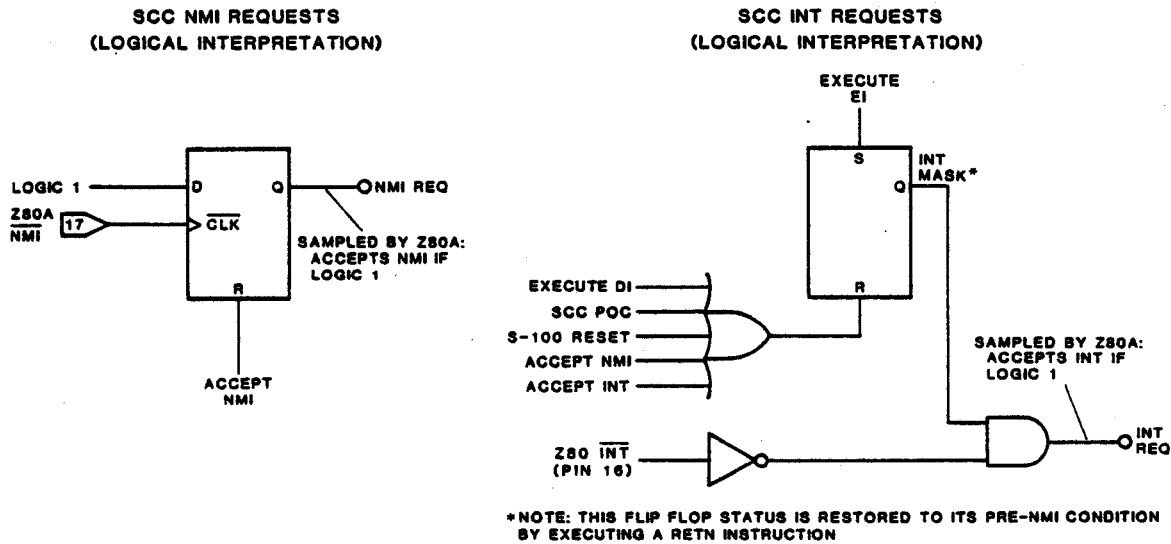

Figure 19: Z80A INTERRUPT REQUEST SAMPLING
NMI INTERRUPT RESPONSE: A Non-Maskable Interrupt Request is made to the Z80A by a falling edge on S-100 bus line NMI, which sets an NMI latch internal to the Z80A (see Figure 19). The Z80A samples its NMI latch output with the rising edge of the last clock cycle at the end of every instruction executed. If an NMI is detected, the Z80A unconditionally accepts the NMI by finishing the current instruction, resetting its NMI latch and disabling maskable interrupts, pushing the Program Counter (PC) contents onto the stack, and jumping to memory address 0066H, the fixed starting address of the NMI service routine. Notice that this is an SCC ROM 0 location, if SCC on-board memory is enabled. The Z80A does not issue Interrupt Acknowledge status (sINTA) to the S-100 bus in response to an NMI. A return from the NMI service routine to the interrupted program may be performed by executing a RETN instruction, which pops the PC contents from the stack and restores the maskable interrupts enabled/disabled status which existed before the NMI, or by executing a RET instruction which pops the PC from the stack but does not restore the previous interrupt status.
The other nine interrupt sources request servicing thru the Z80A's maskable $\overline{\text{INT}}$ pin. The 5501 manages eight of these interrupt sources, and its own INT output pin goes high to request service for any one of them. This signal line is logically combined with S-100 bus line $\overline{\text{INT}}$ so that an interrupt request from either one (5501 pin INT, or S-100 bus line $\overline{\text{INT}}$) forces Z80A pin $\overline{\text{INT}}$ active low (see SCC Schematic Diagram). The Z80A may, or may not, accept the interrupt request depending upon whether interrupts are enabled or disabled. Figure 19 above illustrates the logical relationship between Z80A pin $\overline{\text{INT}}$ and the various masking conditions. The Z80A samples internal line INT REQ with the rising edge of the last clock cycle at the end of every instruction executed (at the same time NMI REQ is sampled; an NMI REQ has higher priority than INT REQ, however). INT REQ is a logical AND of Z80A input $\overline{\text{INT}}$ and a one bit INT MASK. If INT MASK